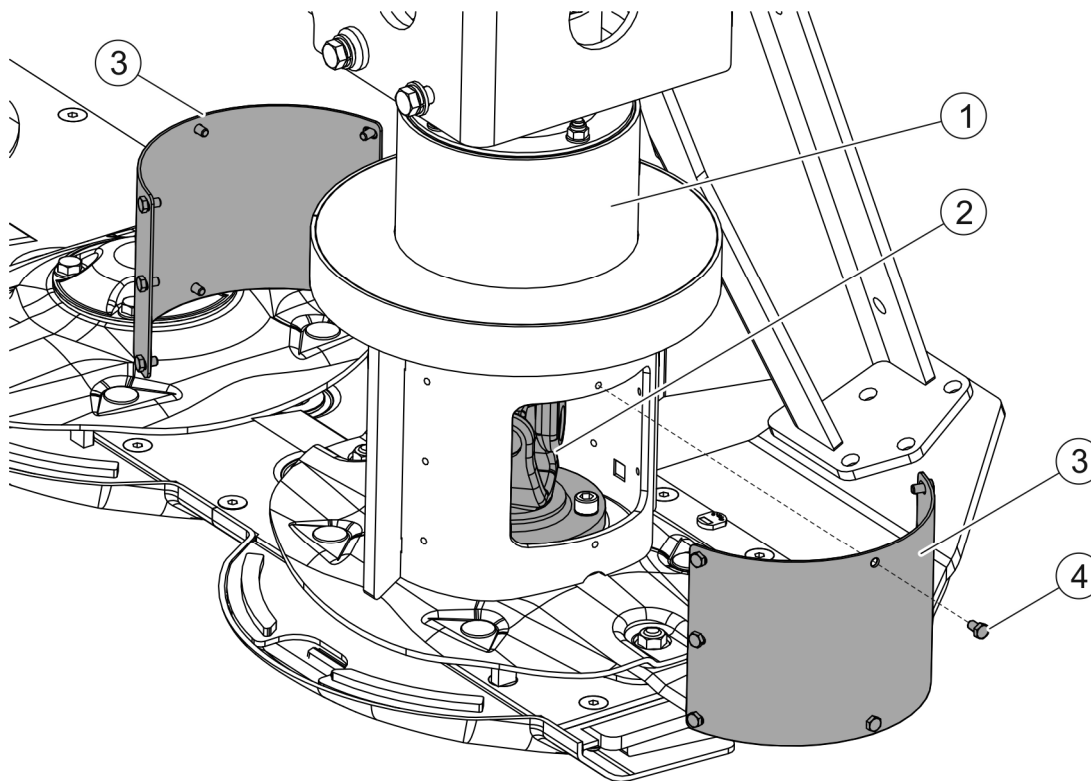

FIGURE 5.8 **Cleaning and lubricating the drive disk**
To ensure proper operation of the mower, regularly clean and lubricate drive disc (1) articulated shaft (2) (FIGURE 5.8). Failure to regularly clean and lubricate the articulated shaft (2) can lead to seizing of the connection and machine damage.